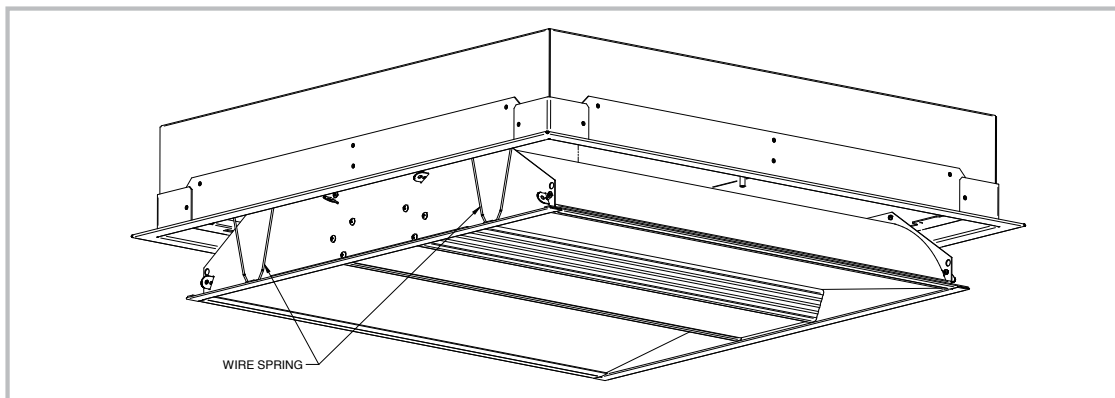

Figure 4: Installing or Removing Lens/Reflector Assembly
8. Lift fixture into ceiling opening, ensuring the (4) 1/4"-20 bolts from Step 4 pass through the (4) housing holes produced in Step 6. Install rubber washers, steel washers, and 1/4"-20 nuts as shown in **Figure 4**.
9. Tighten the (4) 1/4"-20 nuts sufficiently to draw fixture up and create full surface contact of the fixture flange to the ceiling opening. Inspect around the fixture to ensure that the flange is tight to the ceiling. Apply sealant (by others, verify proper sealant for this application) where necessary to fill all gaps in between the flange and the ceiling.
1. Reinstall the lens/reflector assembly by squeezing the wire springs and passing them through the guide slots in the housing. Reflector assembly may rest in the lower position temporarily if needed. See **Figure 4**.